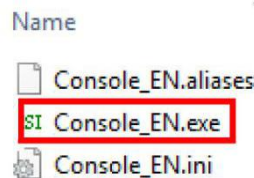
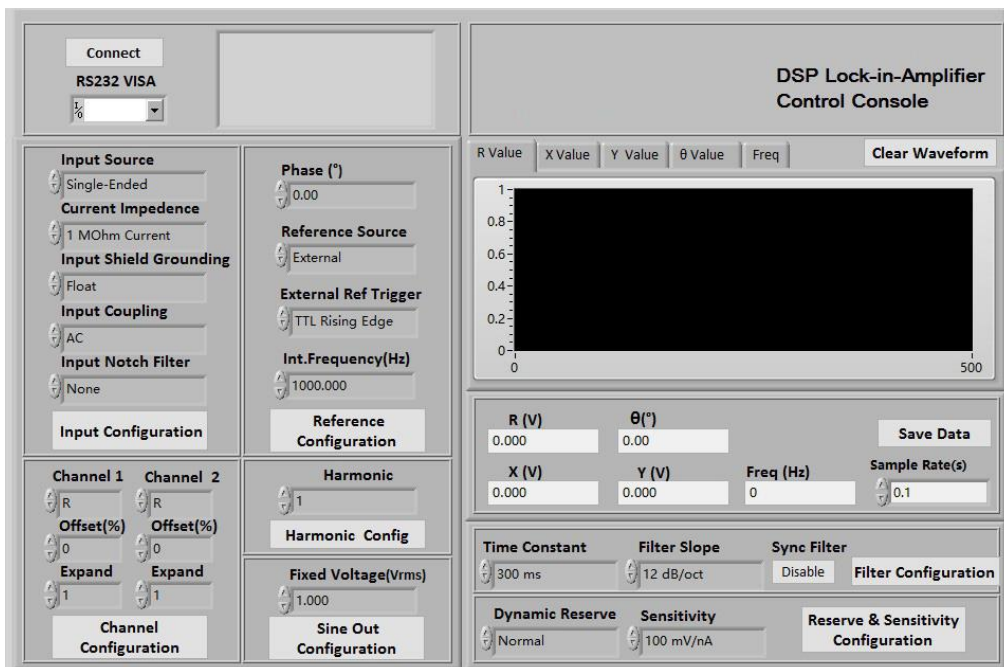

Fig.32 “SE1201_Console_EN” File
Fig.33 SE1201 Software Interface
- 2) Double click the file “SE1201_Console_EN.exe” in Fig.32 red box. If the installation is right, and then you will see the Fig.33.